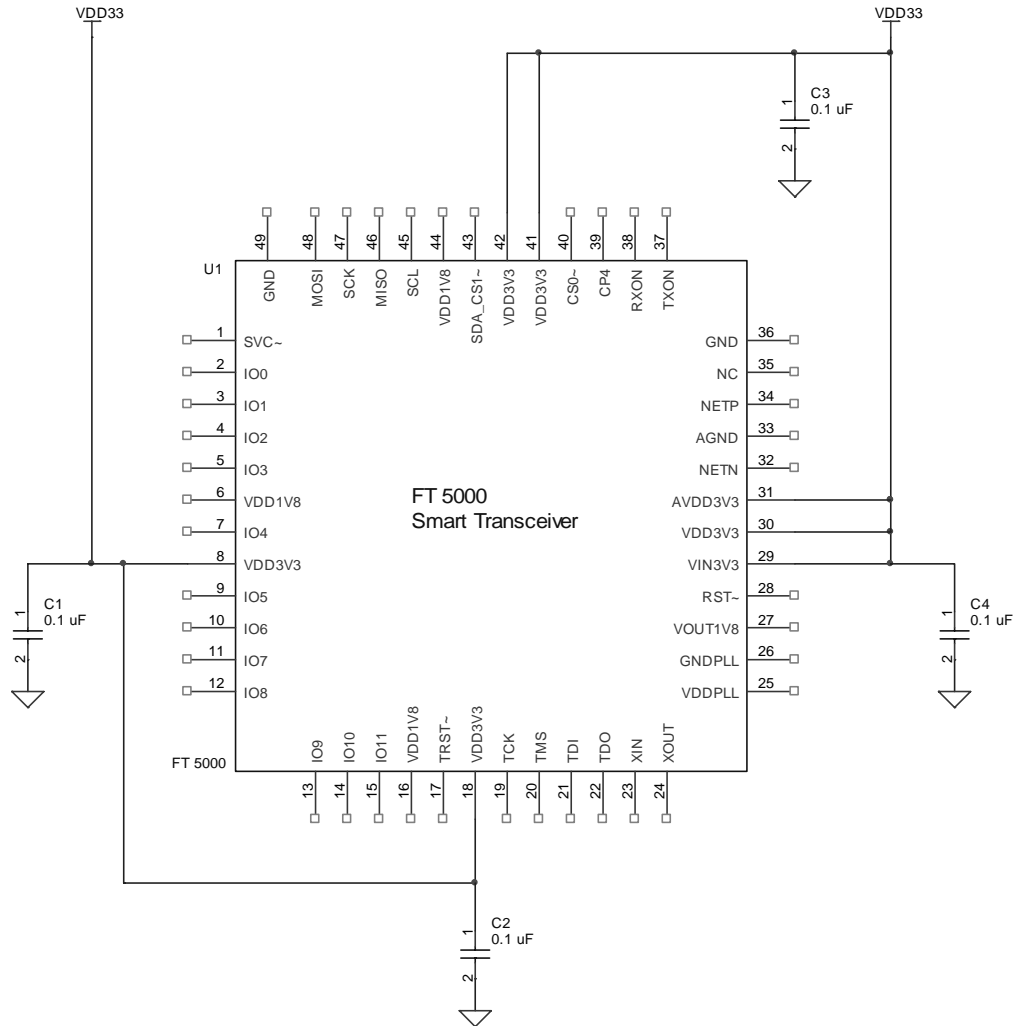

Figure 12. Connections for the VDD33 Pins
Connect the **VDD3V3** pins (8, 18, 29, 30, 41, and 42) to V_{DD33}. Also connect the **AVDD3V3** pin (31) to an analog V_{DD33} source, if different from the digital V_{DD33} source. In general, the **VDD3V3** pins and the **AVDD3V3** pin connect to the same V_{DD33} source. In addition, connect decoupling capacitors to the **VDD3V3** pins, as shown in **Figure 12** on page 37.